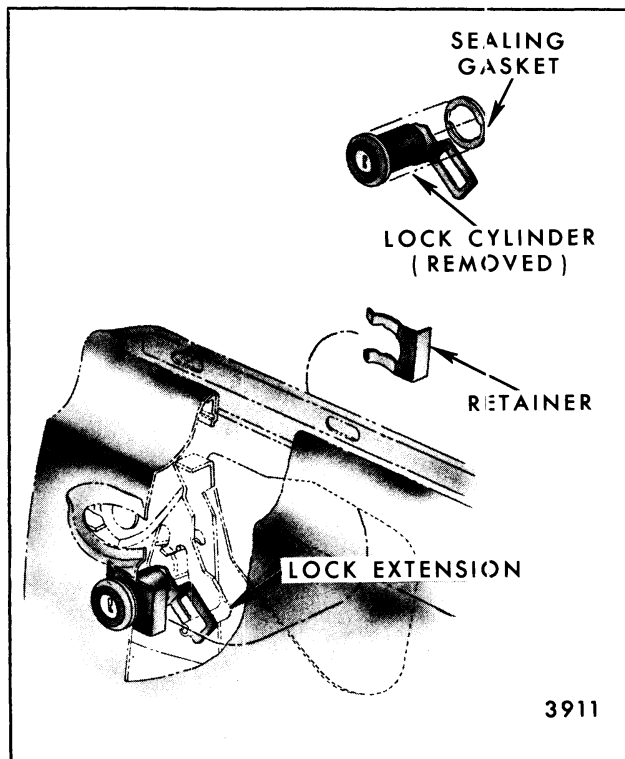

Fig. 5-71-Door Lock Cylinder Removal
2. With a screwdriver or other comparable tool, slide lock cylinder retaining clip (on door outer panel) out of engagement and remove lock cylinder from door (Fig. 5-71).
- Remove attaching screw in base of mirror and mounting bracket to door outer panel attaching screws (Fig. 5-71). Then, remove mirror and cable assembly from door.